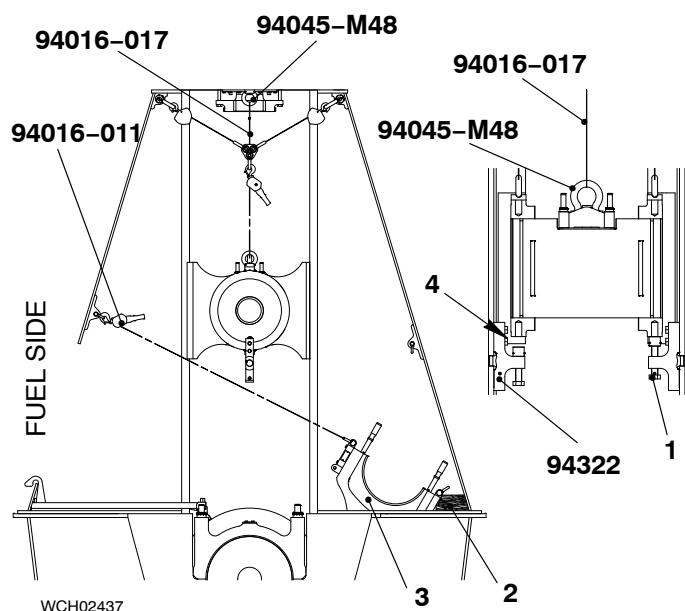

Fig. 2
- 10) Use the manual ratchet (94016-017) to lift the crosshead approximately 160 mm above the center of the pin hole (4, Fig. 1 view II and Fig 2).
- 12) Torque the four bolts (4) to 300 Nm.
- 13) Tighten the two set screws (1).
- 15) Put the wooden block (2) in position as shown.